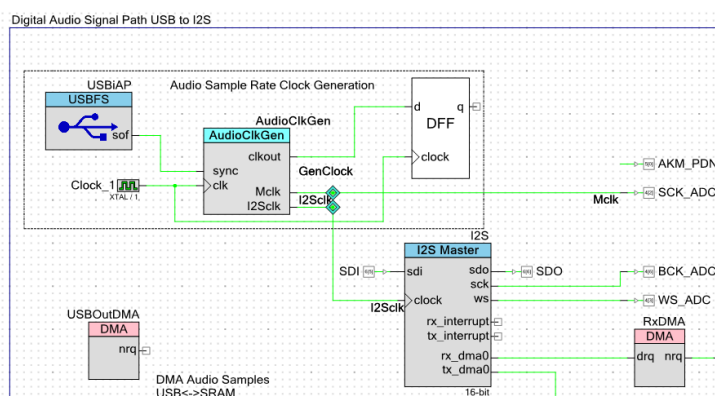

Figure 2 AudioClkGen schematic connections to clocks for I2S and to USBFS synchronize the audio clock with the USB start of frame (SOF) timing.
To use the AudioClkGen for isochronous USB digital audio with USB synchronization the sync input must be connected to the USBFS start of frame (SOF) output terminal as shown in Figure 2 below. If synchronization is not used the sync_sof pin will be hidden and only connections for the input reference and output clock to the PLL are required.
To connect to an external CODEC the audio master clock from AudioClkGen pin Mclk can be routed to a GPIO pin and the I2Sclk clock should drive the clock of the associated I2S (v2.4) component. These connections are also shown in Figure 2 below.
- a. Place a D flip-flop on the schematic and add a wire to connect the clkout pin to the D input. Add a clock for this DFF. (See Figure 2).